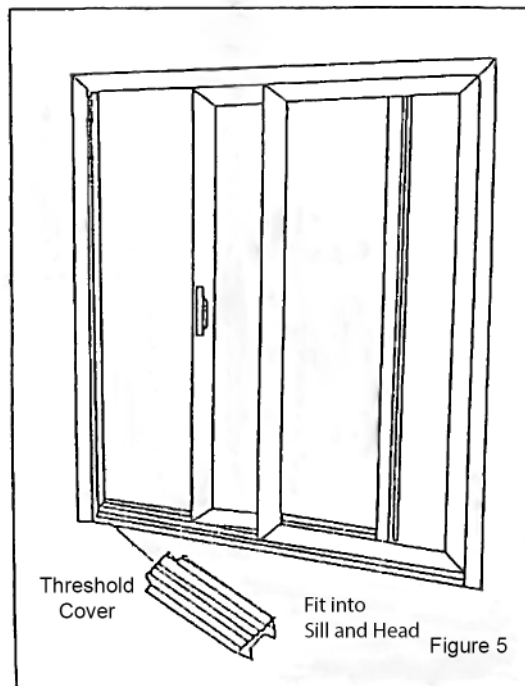

Figure 5
C. Final Panel Installation *(Figure 5)*